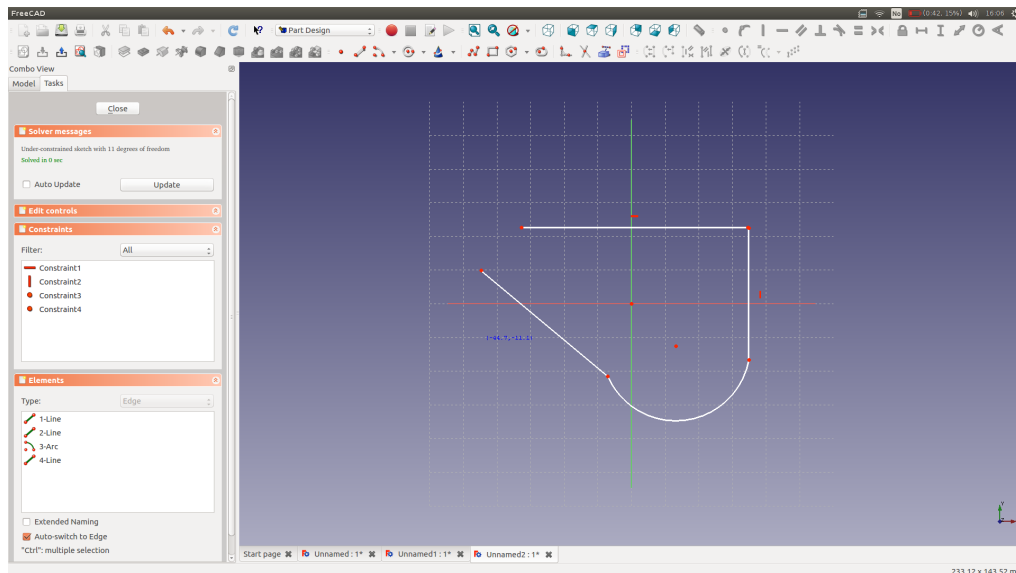

Figure 4: This is how a sketch will typically look like before you set constraints.
- We will draw a simple shape in 2D. Start by creating two **lines**, then one **arc** and one more **line** as indicated in Fig. 4. Note that if you create a line that is nearly horizontal, FreeCAD will automatically add it an horizontal constraint (visible as an additional